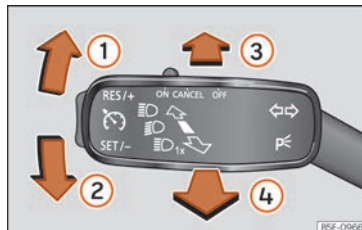

Fig. 105 Turn signal and main beam lever.
- From the base position, press the turn signal and main beam headlights lever forwards  **Fig. 105 ③**.
- **EITHER:** if main beam assist is on, pull the turn signal light and main beam headlights lever back  **Fig. 105 ④**.